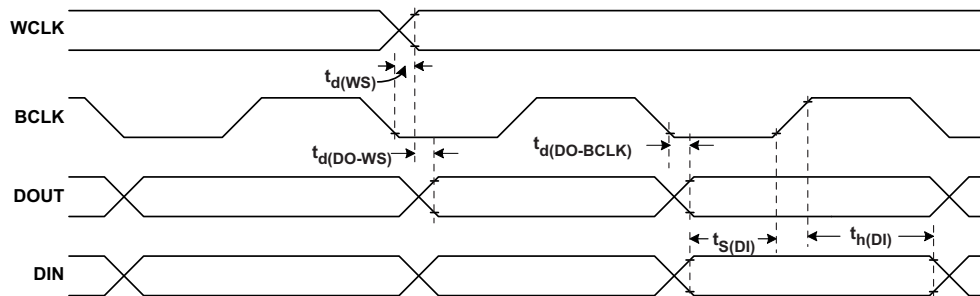

Figure 2. I²S/LJF/RJF Timing in Master Mode
8.13 I²S/LJF/RJF Timing in Master Mode (see Figure 2)